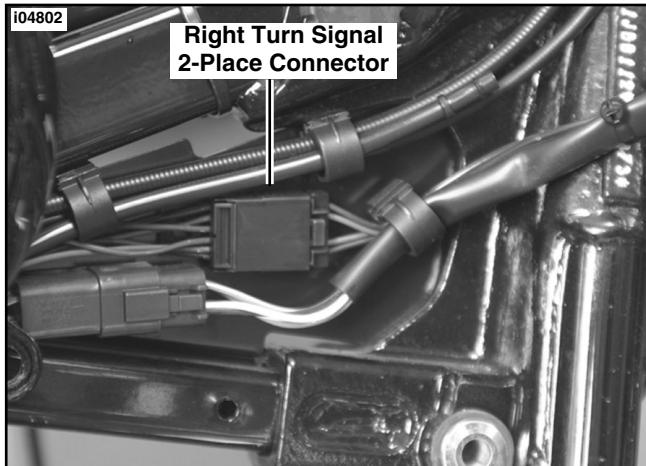

Figure 1. Turn Signal 2-Place Amp Connector
- See Figure 1. Separate the left and the right turn signal Amp 2-place connector halves.
- See Figure 1. Remove and discard the four hex socket head screws (1) holding the stock handlebar upper clamp (2). Remove the upper clamp and discard.
- Remove the handlebar (3) from the motorcycle.
- Remove and discard the stock handlebar risers (4). Save the remaining hardware for later installation.